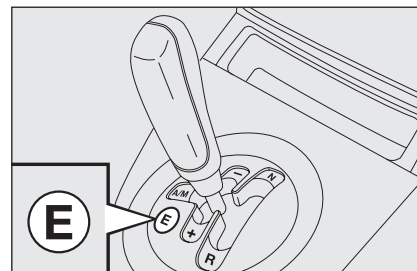

fig. 4
- the second fully automatic (**AUTO**), where the system decides when to shift gear. The **ECO** function (Economy) can be used with this mode reducing fuel consumption. To switch this function on, press button **E**-fig. 4.
The **ECO** function is turned on by pressing button **E - fig.4**. After this function has been activated, the display will show the gear engaged and the words **AUTO** and **E** (see next paragraph).